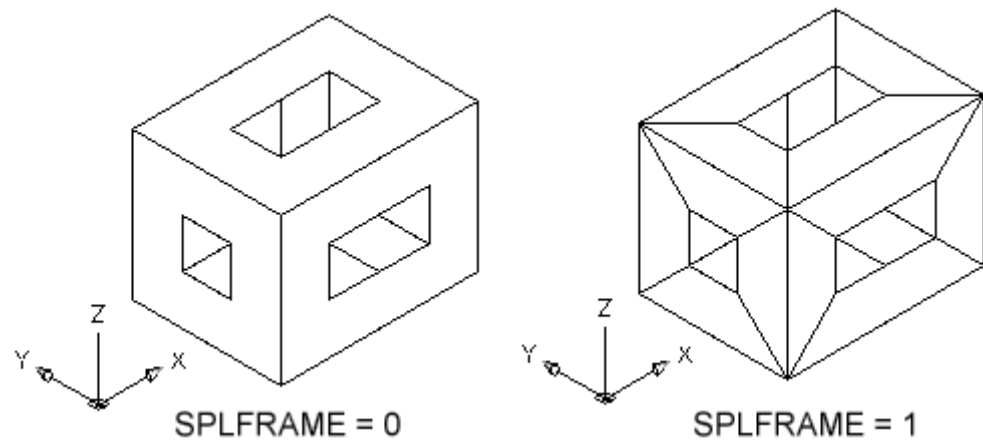

Figure 2.2.4
**Note:** The System Variable **SPLFRAME** can be used to display edges which have been drawn invisible, as shown in **Figure 2.2.4**. However, **SPLFRAME** will only display or hide edges you have set invisible with the minus value, it does not turn off otherwise visible edges.